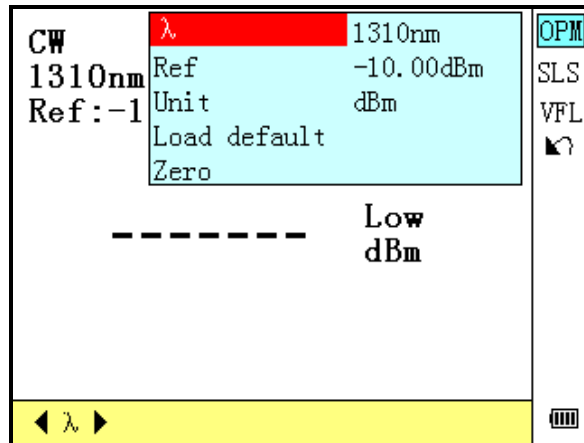

Figure 4-10. OPM Measurement Setting
- Use [◀] and [▶] to toggle between calibrated wavelengths. Press [Enter] to enter OPM measurement setting interface as shown in Figure 4-10.